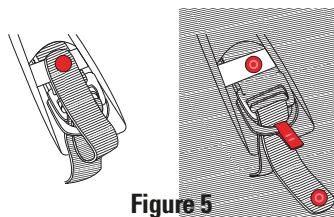

Figure 5
To unfasten the Chinstrap (8), unsnap the button and pull the red tab downwards, see Figure 5, page 5.